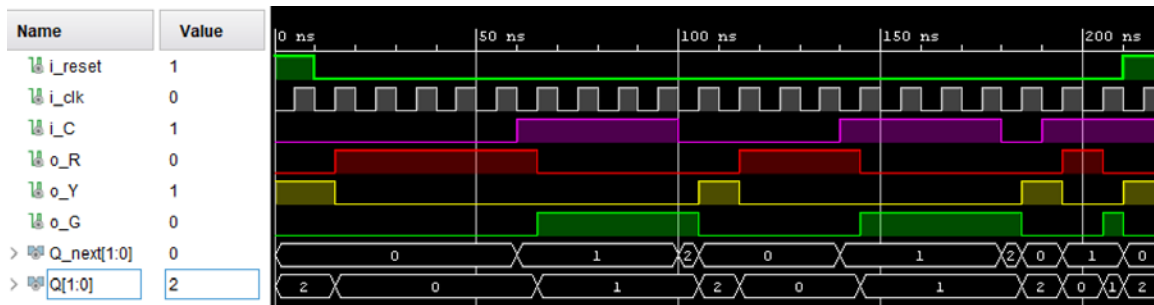

Figure 7. Stoplight FSM test bench waveform
See Figure 7 below to see what your simulation should look like. Note the additional signals we have not seen in past simulations. Not only can we check that the outputs are happening as expected, but we can verify that the state (Q) and next state (Q\_next) are behaving as they should. Note that these signals do not show up in your waveform by default. The waveform will only show the signals in your test bench itself. However, you can pull any signal from any component and have it added to your test bench. To do this click “Window” and then “Scope.” You will see your stoplight\_fsm\_tb and the subcomponent stoplight fsm. If you click on stoplight fsm, you will see all of the signals present inside the component. Highlight Q and Q\_next, right click, and select “Add to Wave Window.” You will need to run the sim again. You may also remove the constant since it’s presence doesn’t tell you anything useful. The ability to add signals in sub components will be a useful tool when you are debugging your FSM designs. It can help you figure out where your error is. For this design, if the state is correct but the output is not then the issues is in your output equations. If Q\_next is correct but Q is not then maybe you are resetting on accident or your process is incorrect.